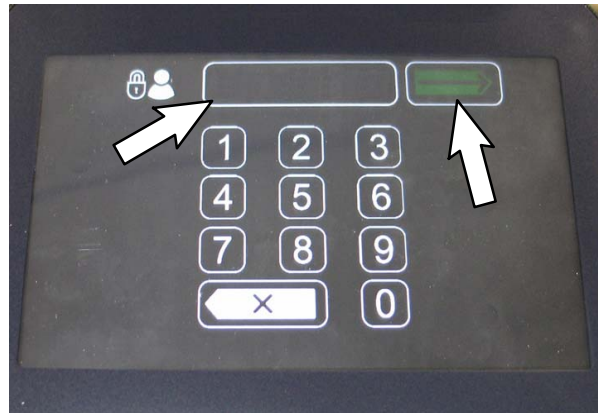

FIG. 22
- Use the keypad to enter the supervisor mode log in number into the display above the keypad. Press the enter button when finished entering the log in number. (Fig. 22)